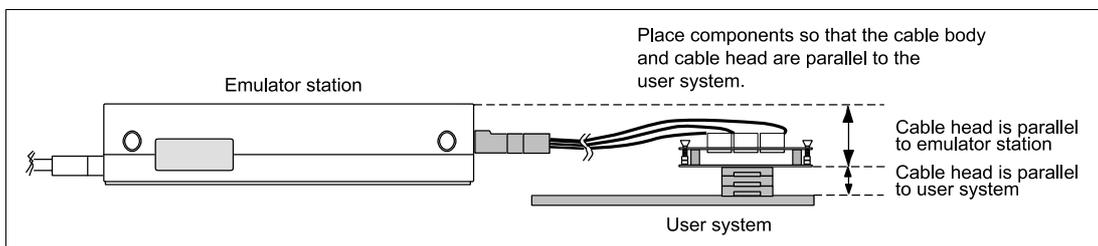

Figure 8 User System Interface Cable Location Example
4. While the emulator station is connected to the user system with the user system interface cable, force must not be applied to the cable head. Place the emulator station, user system interface cable, and user system as shown in the example in figure 8.